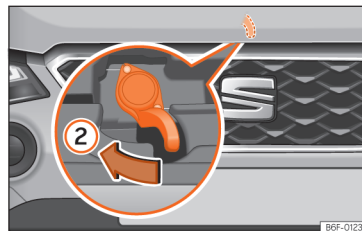

Fig. 190 Lever under the bonnet.
- To lift the bonnet, press towards the left on the lever located under the bonnet, in the centre » **Fig. 190 ②**. The arrester hooks are released.